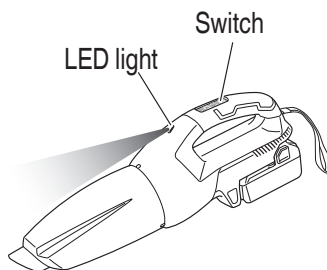

Fig. 17
4. Switch on the appliance (**Fig. 17**)